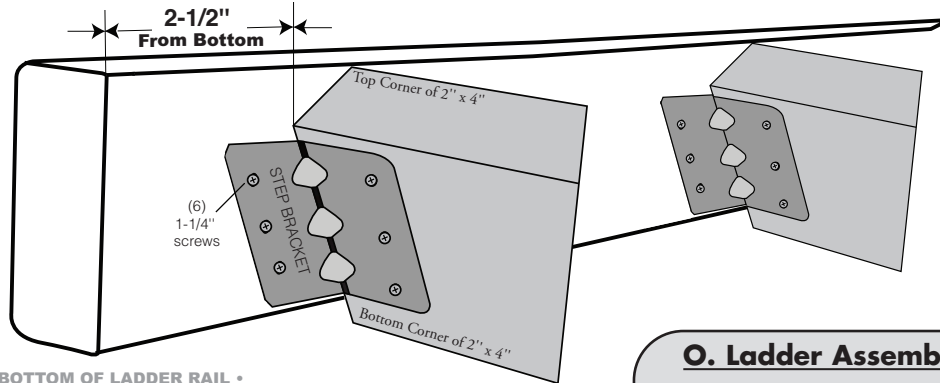
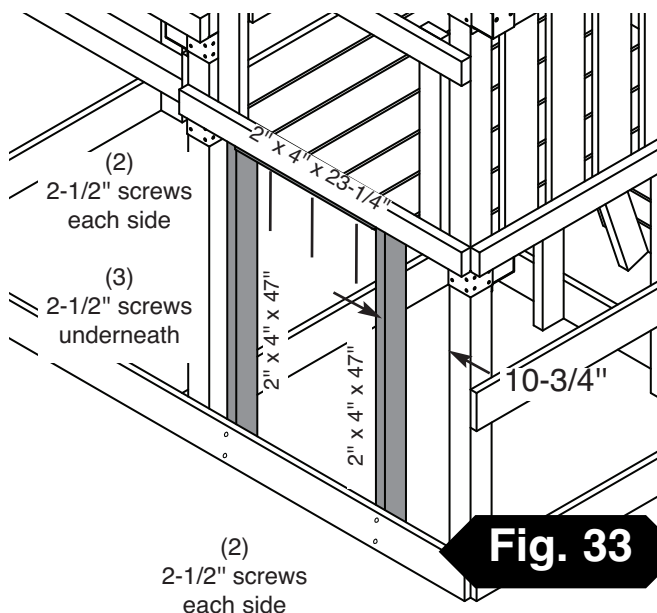

Fig. 32
Fig. 33
2. Align top of step bracket with line and screw in place. Install a ladder rung at each of the four locations. (**Fig. 31**) and (**Fig. 32**). Repeat on other ladder rail.
3. Attach 2" x 4" x 23-1/4" to siderails using (2) 2-1/2" screws per side.
4. Secure ladder to unit. (**Fig. 33**), and (**Fig. 34**)